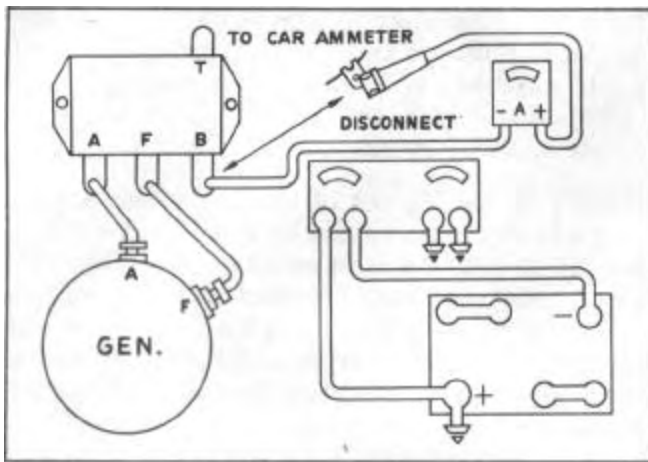

FIGURE 22
1. Disconnect battery lead at voltage regulator "B" terminal; connect the ammeter negative lead to the regulator "B" terminal and the positive lead to the wire disconnected from the regulator, Figure 22.